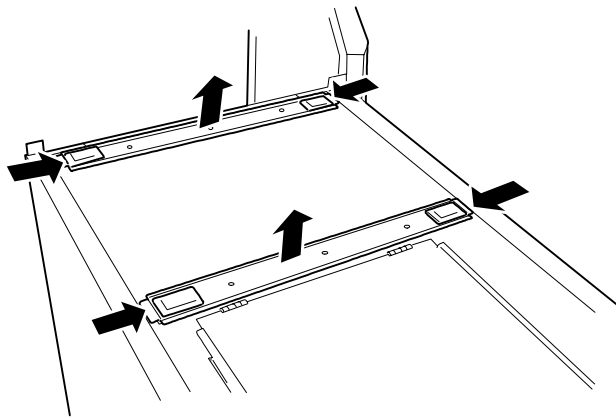

Figure 4-3. Unlocking the Front and Rear Fan Modules
3. Push the two slide levers located on top towards both ends of each fan module to unlock the module and pull up at the same time. See Figure 4-3.